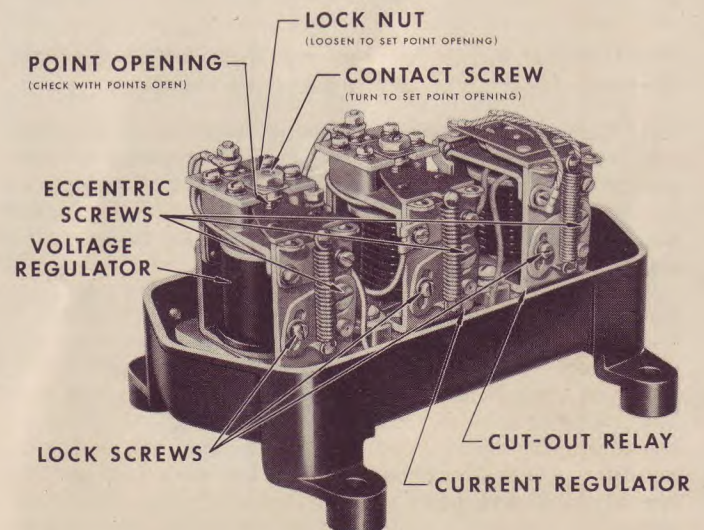

FIGURE 2-27
**The Cut-Out Relay Closing Voltage** is adjusted (Figure 2-27) by loosening the locking screw and turning the eccentric to adjust the tension of the spiral spring. Increasing the tension increases the closing voltage, decreasing the spring tension lowers the closing voltage.
**The Voltage Regulator Setting** is adjusted (Figure 2-27) by loosening the locking screw and turning the eccentric to adjust the tension of the spiral spring. Increasing the tension increases the voltage setting, decreasing the tension lowers the setting. After tightening the lock screw, check the setting by cycling the generator, that is, reduce the generator speed until the relay points open, then bring the generator back to speed. (Or momentarily ground the regulator FIELD terminal.) This reduces the residual magnetism in the regulator winding cores which would otherwise produce an error in the setting.
**Point Opening** is checked with the armature held down against the core. To adjust, loosen the lock nut and turn the contact screw. (Figure 2-27.) The spring holding the contact screw should rise slightly above the fiber insulator when the points come together. This provides a wiping action which improves their operation.